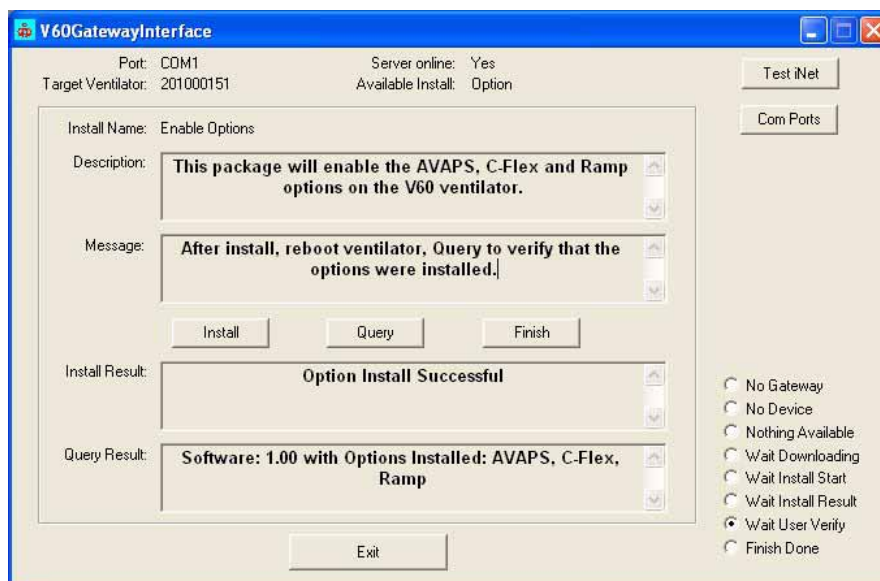

Figure A-13: Query Screen
9. Click **Query** on the GatewayInterface screen to display query results (Figure A-13).